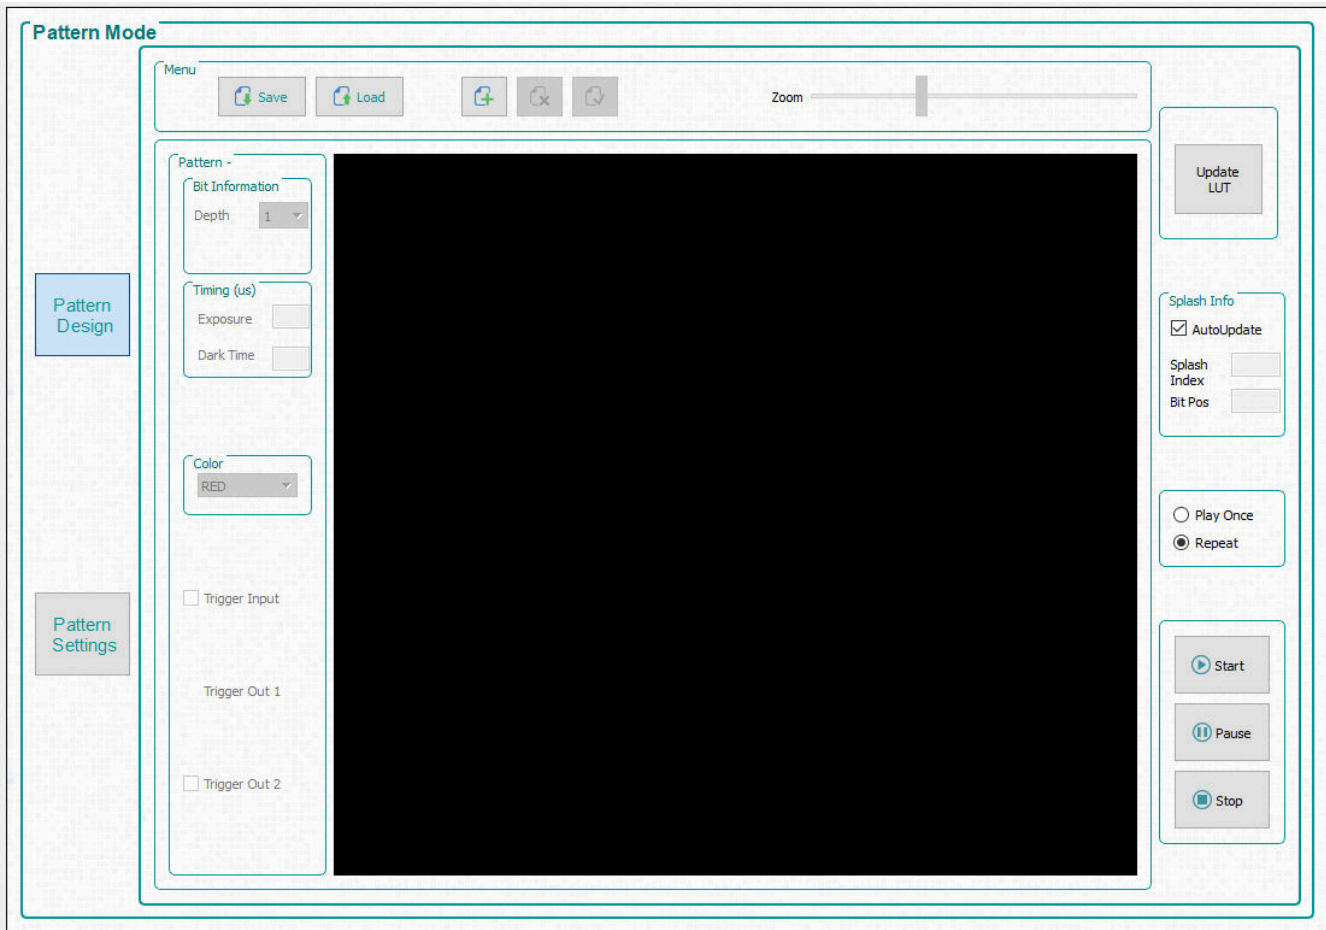

Figure 6-6. Pattern Mode Design Panel
Click the *Pattern Mode* button at the top of the GUI to display the *Pattern Mode* panel as shown in Figure 6-6.
2. Select *Pattern On-The-Fly Mode* from the *Operating Mode* group box, and then click the *Pattern Design* button so that the large black panel is displayed as shown in Figure 6-6.
4. Select *Video Pattern Mode* from the *Operating Mode* group box, and then click the *Pattern Design* button so that the large black panel is displayed as shown in Figure 6-6.